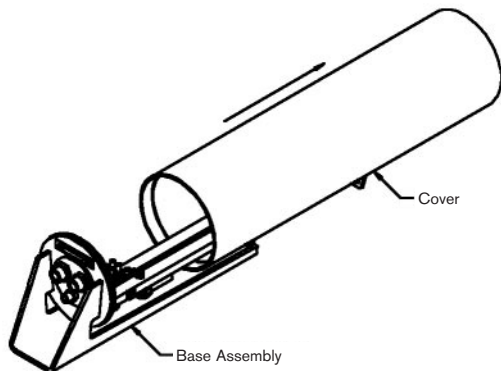

FIGURE 2 Removing the Cover
- Remove the cover from the base assembly by grasping the cover and gently pulling forward. Do not remove the safety cable from the cover or the base assembly. See FIGURE 2.